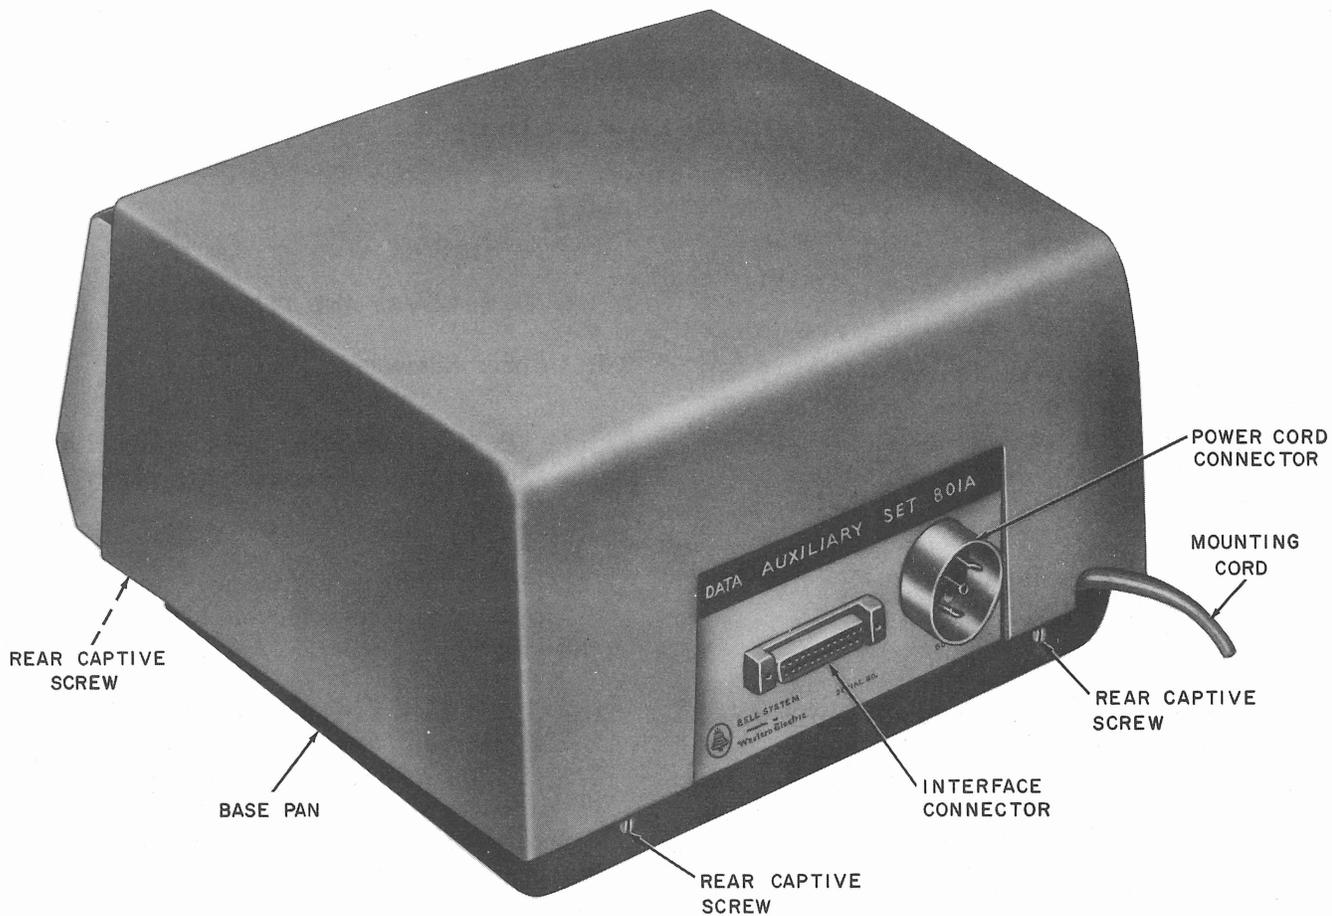

Fig. 1 — Data Auxiliary Set 801A-Type, Rear View
(a) Loosen but do not remove four captive rear cover screws located around the base pan (Fig. 1).
- (a) Grasp TEST button (Fig. 1) and pull outward while applying slight rocking motion.